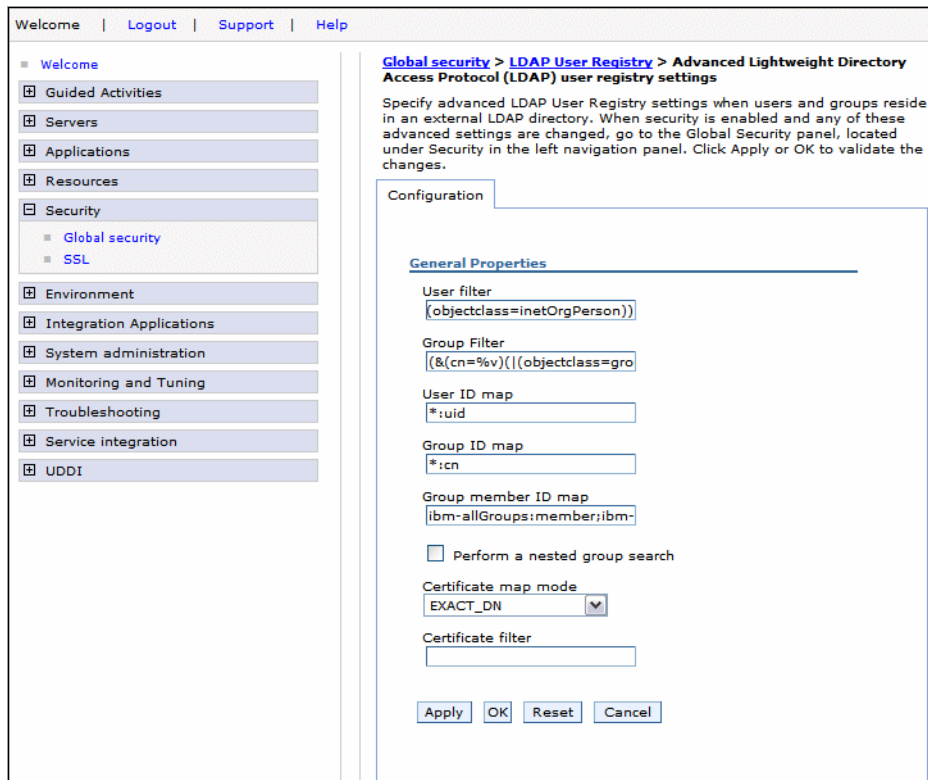

Figure A-33 Enable security: Advanced LDAP user registry settings
- ▶ We want to be able to look up users by their user ID, so change the setting for *User filter* (Figure A-33):